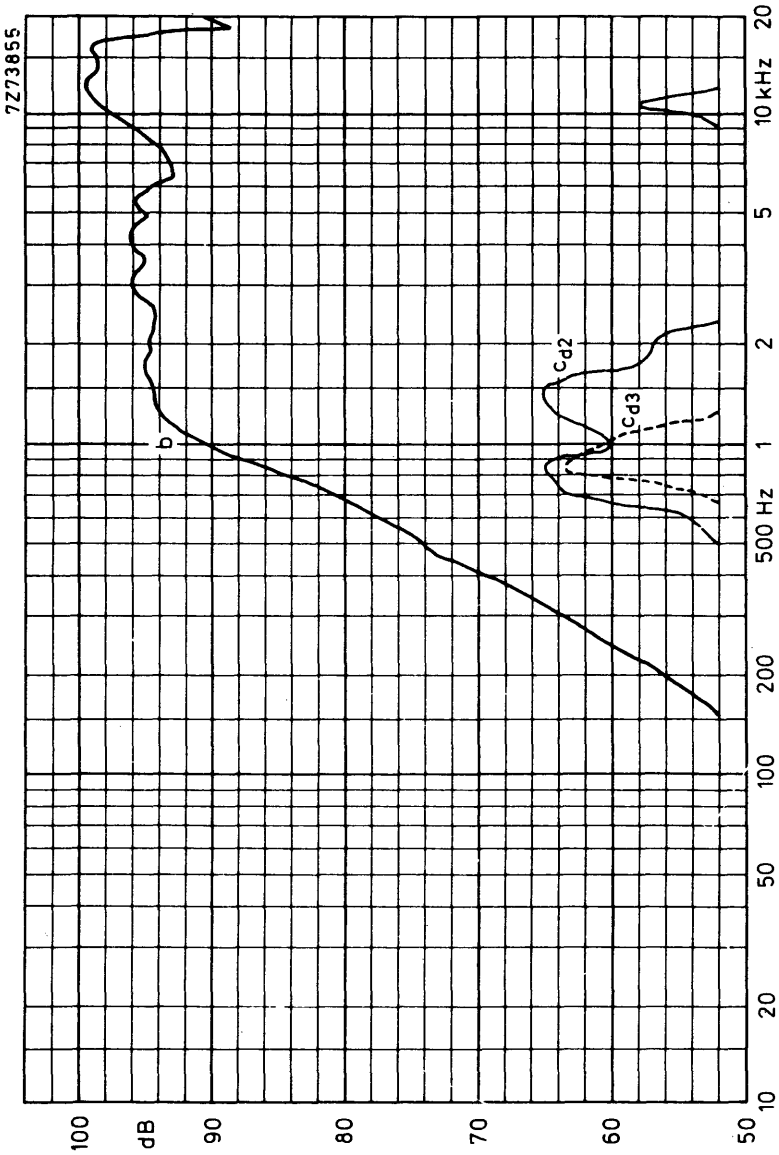

Fig. 3.
**FREQUENCY RESPONSE CURVES** (see Fig. 3)